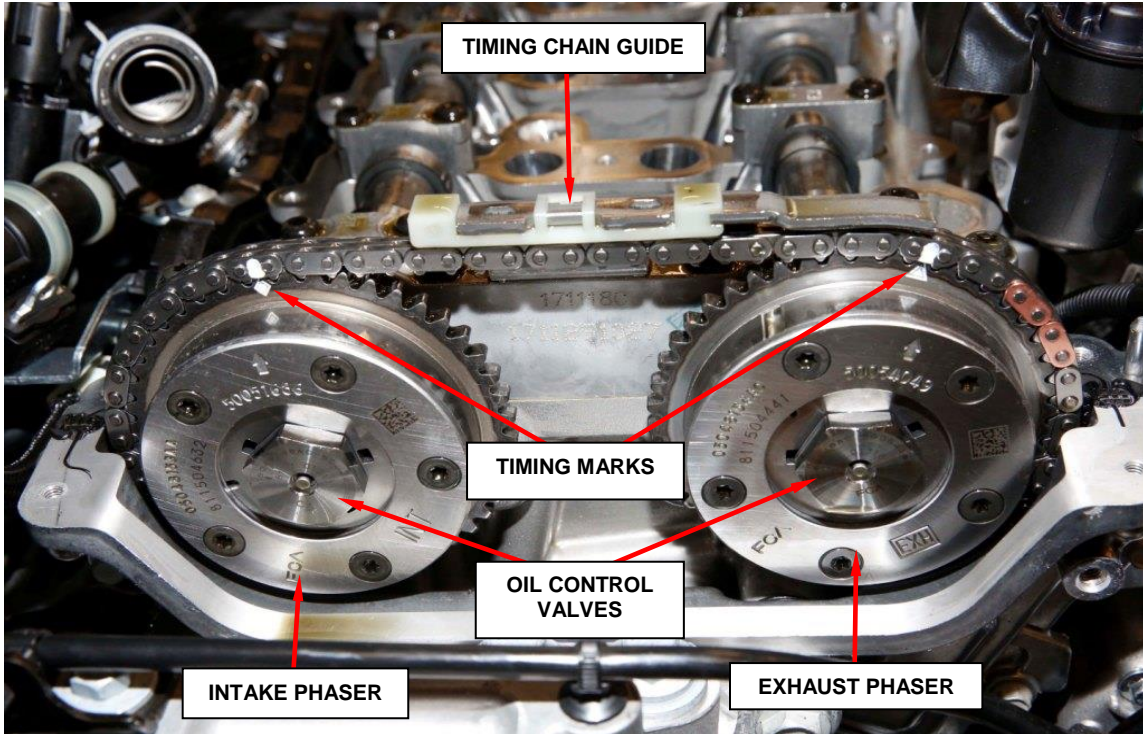

Figure 18 – Camshaft Timing Marks
- 50. Using a paint pen or equivalent, mark both camshaft sprocket timing marks and corresponding chain links to aid in reassembly (Figure 18).
- 51. Remove the bolt and timing chain guide (Figure 18).